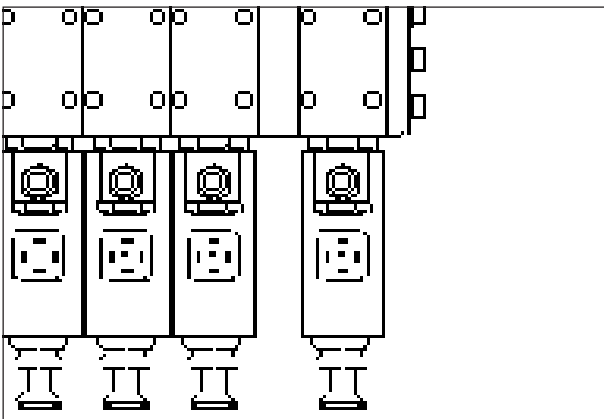

Fig. 35
**When the machine is connected to a John Deere tractor (or other tractors with closed centre hydraulics), the harvester's spool valve centre must be closed. (The pin screwed into its stop, accessible from underneath the block, Fig. 35). When using other types of tractors this screw must be screwed fully out the head level with the central block edge.**